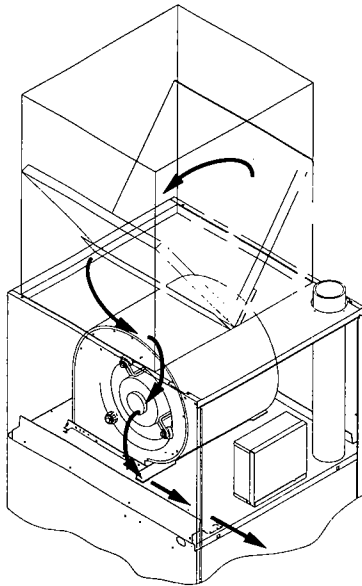

FIG. 4
3. **MAKE CERTAIN THE AIR-FLOW DIRECTION ARROW POINTS TOWARDS THE FURNACE.** Then insert the filters from the left side of the blower. Starting with the right filter, push the filter into the plenum so that the bottom of the filter rests in the filter rack and the upper edge rests against the side of the plenum. Repeat with the left filter. See Fig. 4.
5. To reinstall the filters, first **MAKE CERTAIN THE AIR-FLOW DIRECTION ARROW POINTS TOWARDS THE FURNACE.** Then insert the filters from the left side of the blower. Starting with the right filter, push the filter into the plenum so that the bottom of the filter rests in the filter rack and the upper edge rests against the side of the plenum. Repeat with the left filter. See Fig. 4.